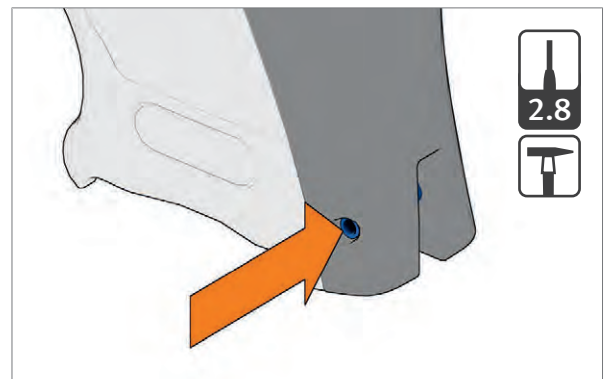

Fig. 19: Drive out clamping sleeve for back strap
1. Extract clamping sleeve for back strap using pin punch (Fig. 19).